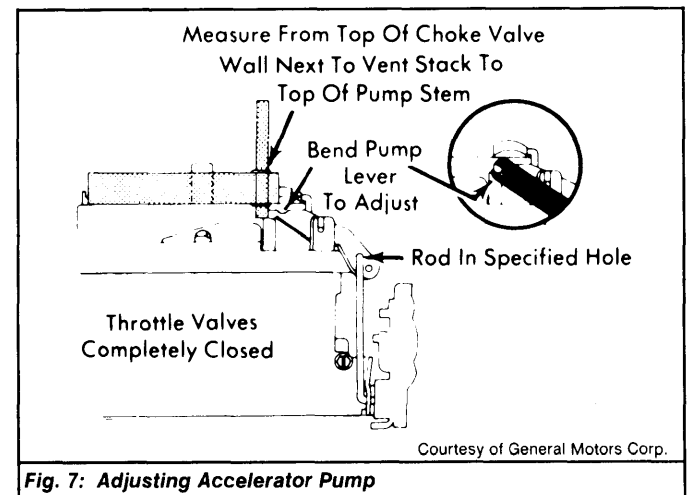

Fig. 7: Adjusting Accelerator Pump
2) Using a "T" scale, measure distance from top of accelerator pump rod stem to top of choke valve wall. To adjust, support pump lever arm and bend at point indicated. See Fig. 7.